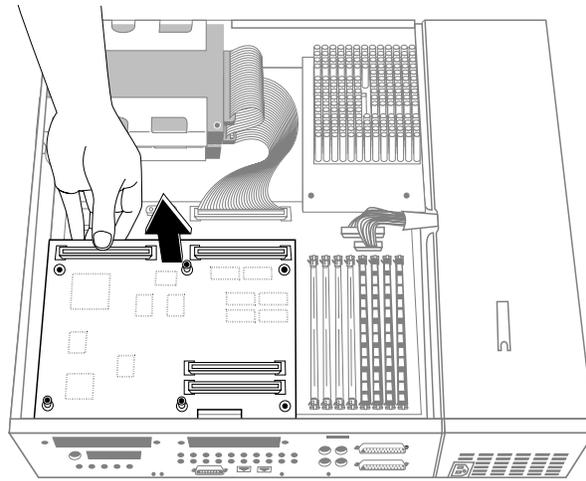

Figure 2-3 Disconnecting the Graphics Board From the System Board
3. Disconnect the graphics board from the system board, as shown in Figure 2-3.